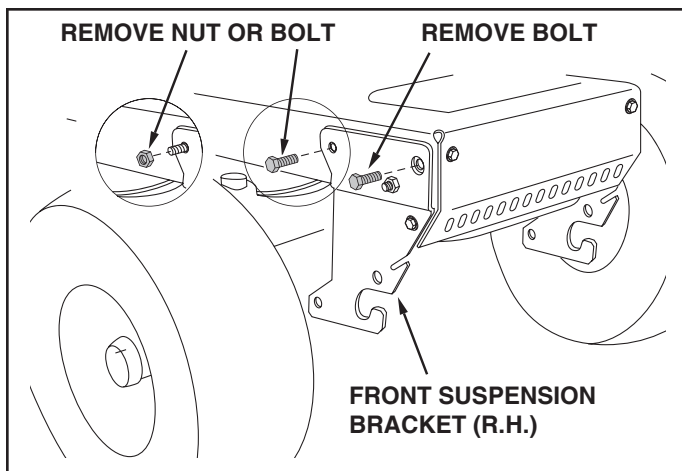

FIGURE 1
- b. the nut from the carriage bolt at the top rear corner of the bracket, leaving the carriage bolt in the tractor frame. See figure 1.